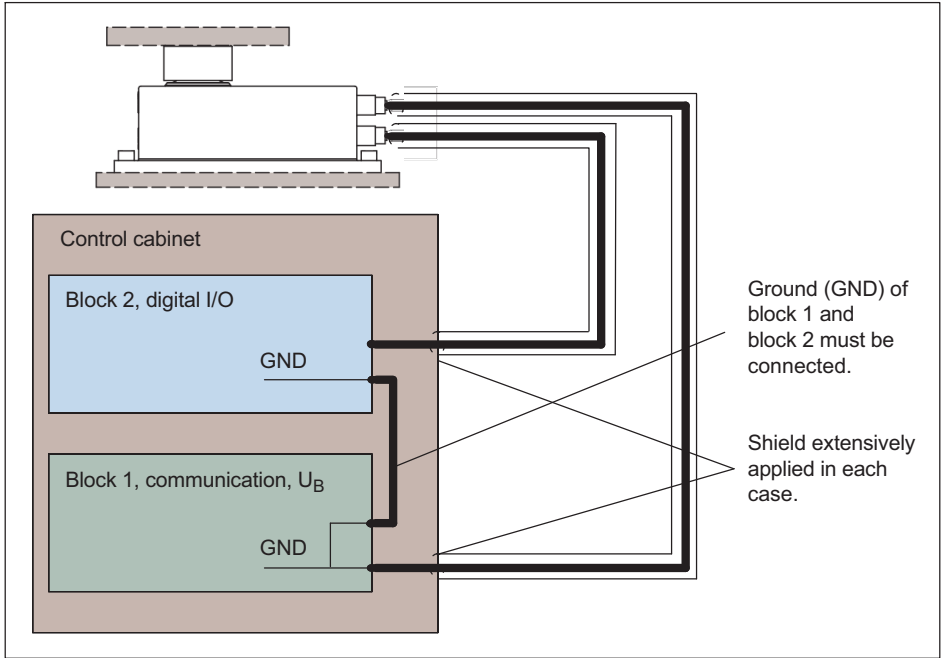

Fig. 7.3 Connecting GND potentials for a mounting inside a control cabinet
2. Both function blocks are inside a control cabinet (Fig. 7.3).
When mounting all the function blocks inside a control cabinet (Fig. 7.3 on Page 20), make sure that the GND potentials of both blocks are connected.